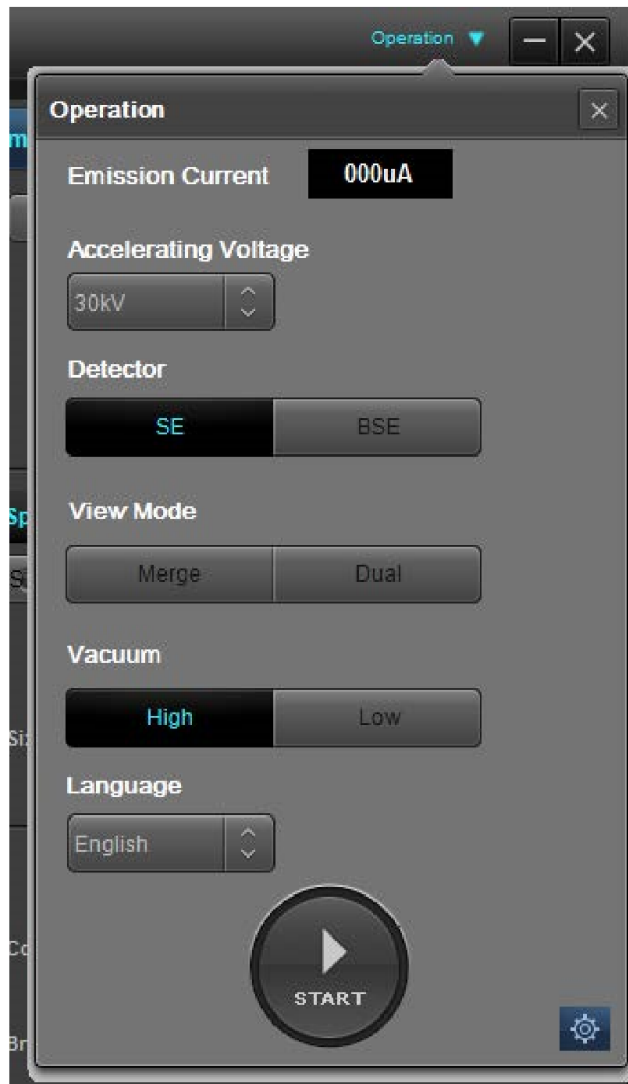

Figure 7. Operational start-up window
1. Once the machine is under vacuum (indicated by the SEM beeping twice), navigate to the Operation Panel (Figure 7). Select an accelerating voltage (range: 1 to 30 kV; see table 1 for working guide). Select a detector type: SE (secondary electrons) or BSE (backscattered electrons). Click the START button to generate an electron beam.